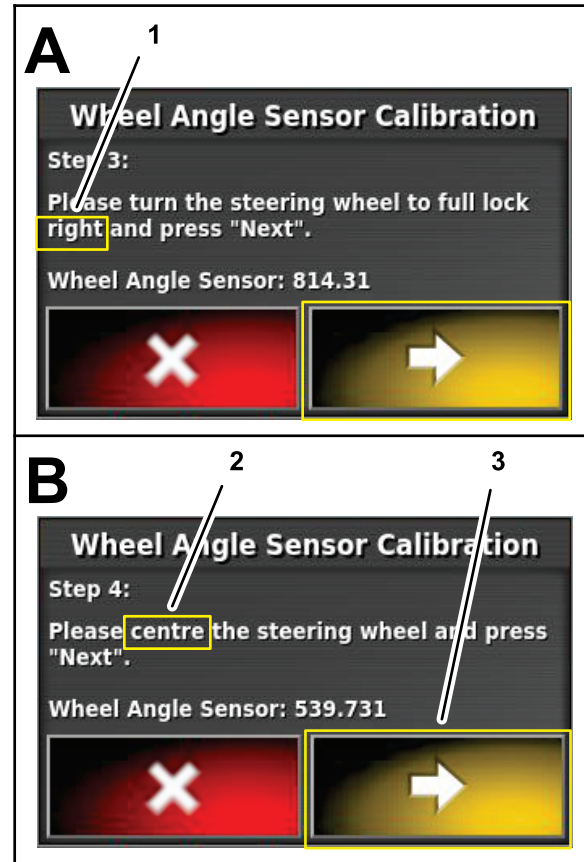

Figure 164
7. At step 3, fully turn the steering wheel to the right, stop, and press the next step icon (Figure 164).
8. At step 4, turn the steering wheel until the tires align straight ahead, stop, and press the next step icon (Figure 164).